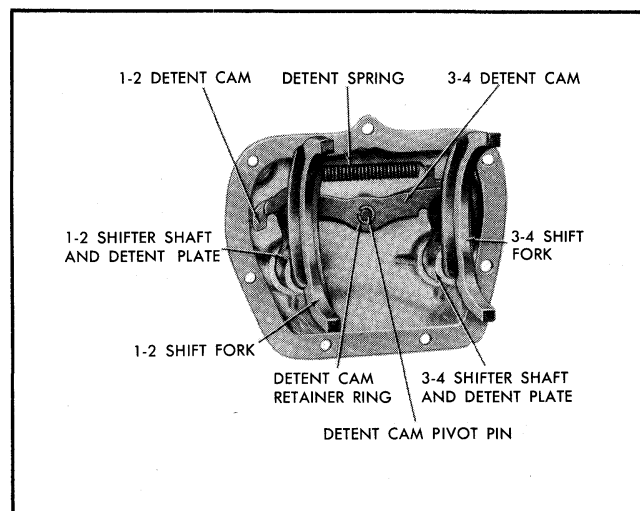

Fig. 7A-11 Transmission Side Cover Assy.
It is not necessary to remove transmission from vehicle for inspection or replacement of parts in transmission side cover assembly, but the side cover assembly itself must be removed from transmission case (Fig. 7A-11).
2. Disconnect control rods from levers (Fig. 7A-8).